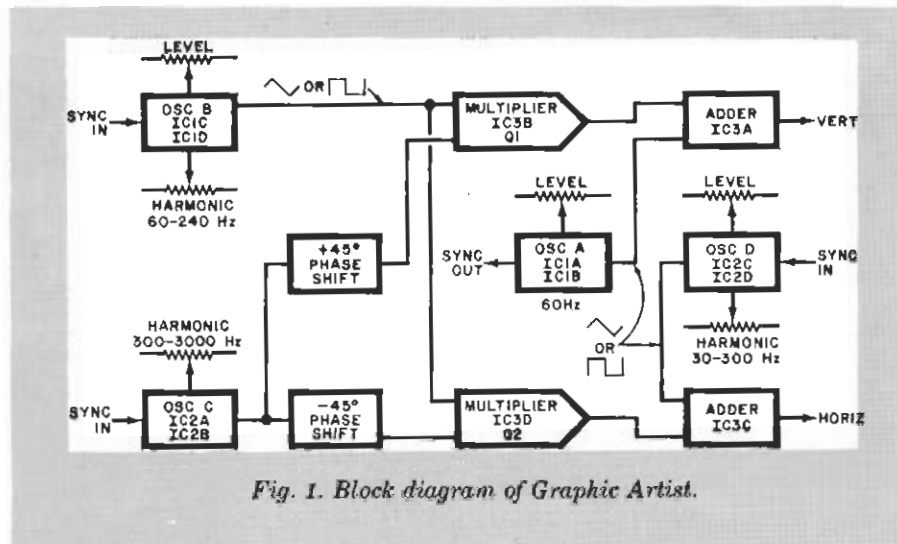

Fig. 1. Block diagram of Graphic Artist.
**About the Circuit.** As shown in the block diagram in Fig. 1, two almost identical signal channels in the Artist are connected to the vertical and horizontal inputs of an oscilloscope. This hookup results in a CRT trace that is known as a Lissajous figure—a